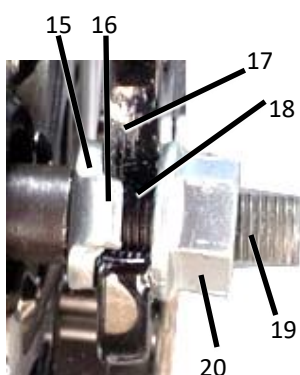

Figure RR4. Correct installation of rear axle into fork. View from bottom UP.
- Rear wheel nuts: 30-35 Nm, Figure RR4.